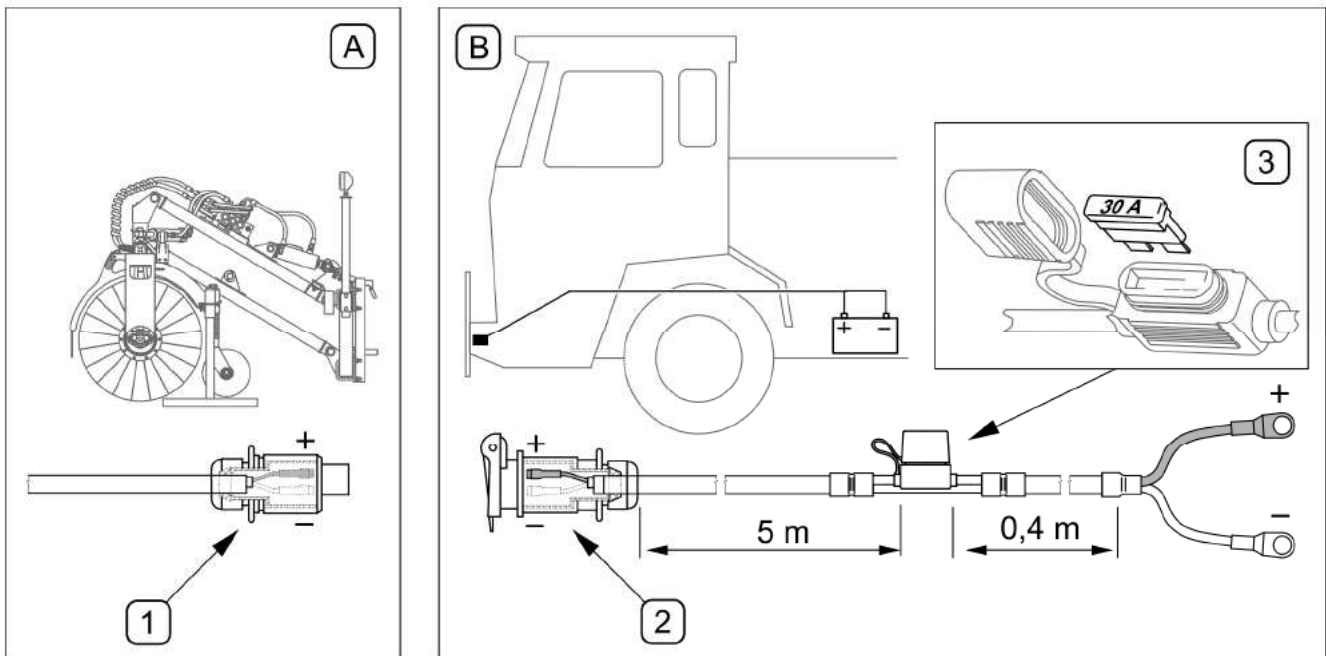

FIG. 4.2 Installing power lead of ZM-S25 sweeper
ZM-S25 sweeper should be supplied from the 3-pin electrical socket installed on the front of the carrying vehicle. If the carrying vehicle is not equipped with such a socket or is equipped with a different type of socket, carry out the socket installation according to the diagram (FIG. 4.2).
Connect power lead (B) to the carrying vehicle's electrical system (FIG. 4.2) and place socket (2) in the front, near the front plate. Power lead (B) has an UNIVAL 30 A fuse (3) on the supply lead „+”.